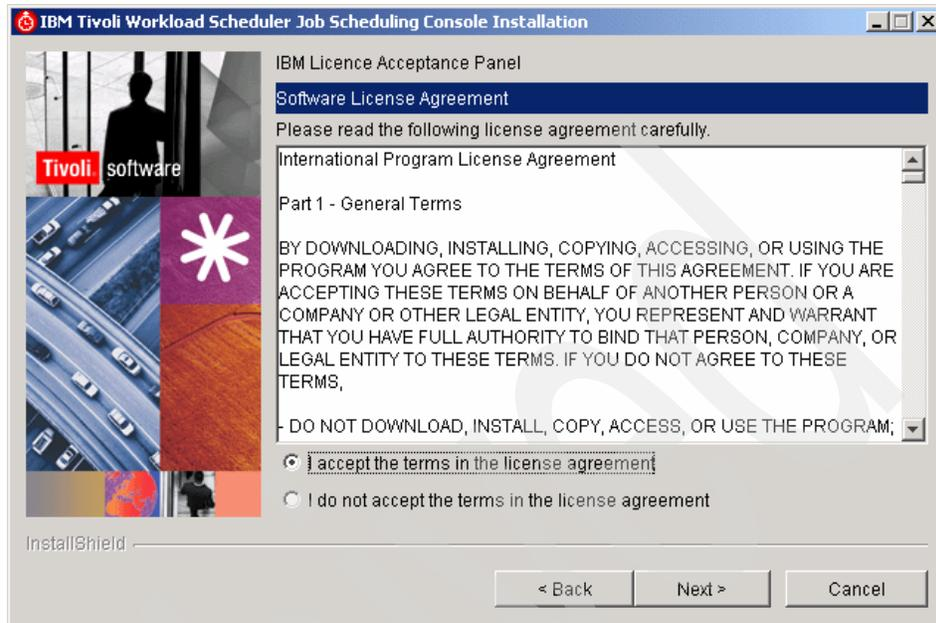

Figure 16-12 JSC Version 1.4 License Agreement
4. Accept the License Agreement and click **Next** (Figure 16-12).